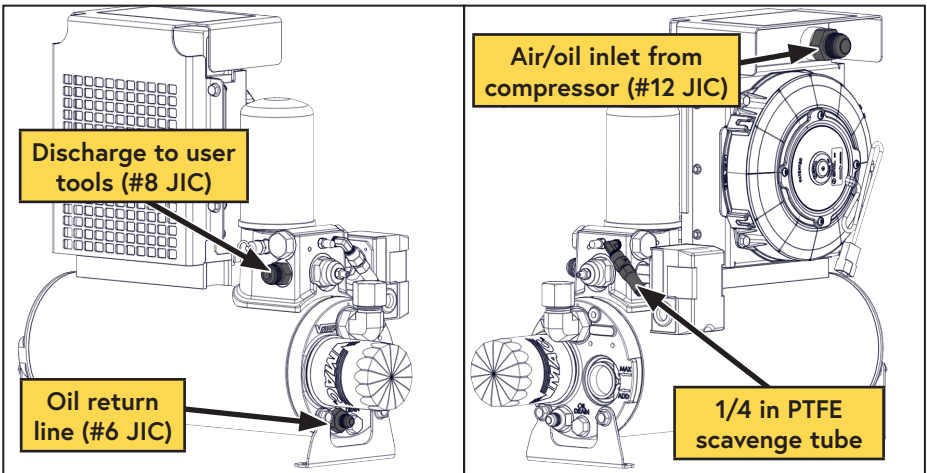

Figure 22 — WHASP Tank connections
- Connect the 90° fitting on the 3/4 in hose to the #12 JIC fitting (air/oil inlet) on the cooler above the fan (Figure 22).
- Connect the 90° fitting on the 3/8 in hose to the #6 JIC fitting (oil return fitting) beneath the oil filter on the tank (Figure 22).
- Connect the 1/4 in PTFE tube to the 1/4 in push-to-connect (oil scavenge) fitting near the coalescing filter (Figure 22).